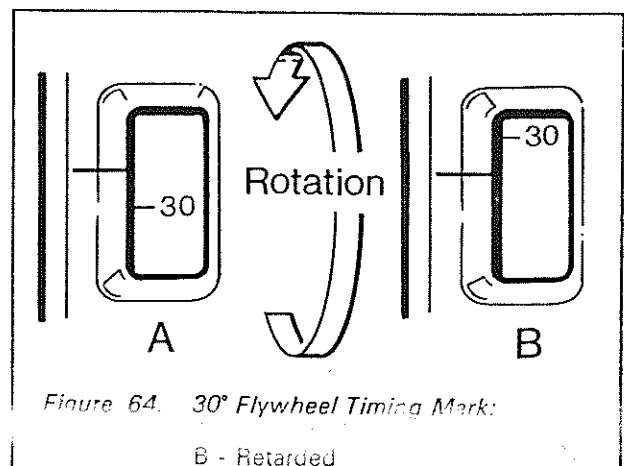

Figure 64. 30° Flywheel Timing Mark:
7. Replace the delivery valve holder (A).
14. If the flywheel timing mark is not correct, see Figure 64, the shims under the fuel pump must be adjusted.
7. If the flywheel timing mark is not correct, see Figure 64 on page 51, the shims under the fuel pump must be adjusted.